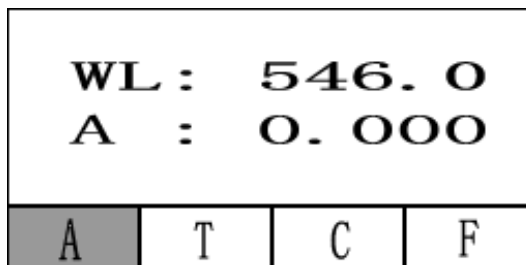

Fig. 4-1
Step 1, Choose "A" by up and down key. (Fig. 4-1)